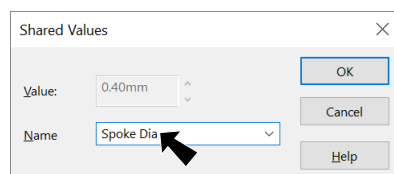

Fig. 23
Step 12. In the Shared Values dialog box key-in **Spoke Dia** for the Name and click OK, Fig. 23.